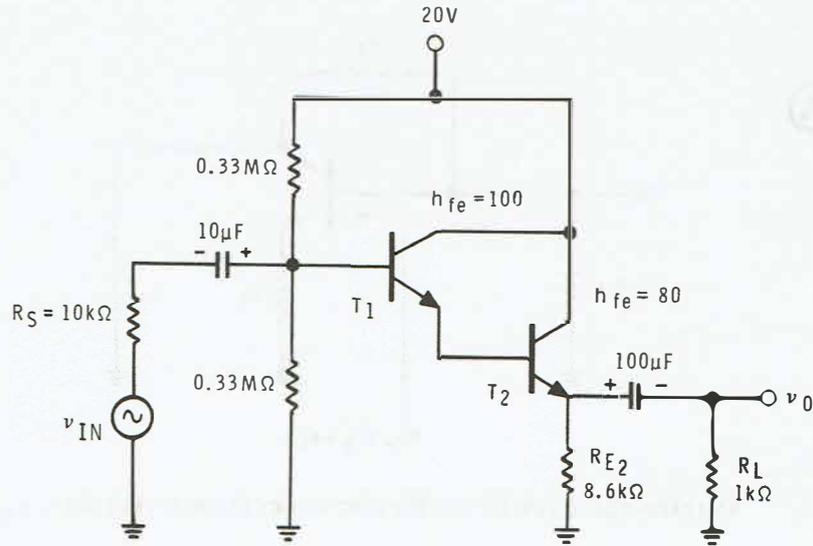

Figure 4-23
In Figure 4-23 the signal source has an output resistance, R_S , of $10\text{k}\Omega$. Obviously, if the signal source is connected directly to the $1\text{k}\Omega$ load resistor, most of the signal voltage will be dropped across the output resistance of the signal source.
1. Convert the Darlington package in Figure 4-23 to an equivalent transistor.
1. To convert the Darlington pair in Figure 4-23 to an equivalent transistor, you can proceed as follows:
Single transistor equivalent circuit for Figure 4-23.